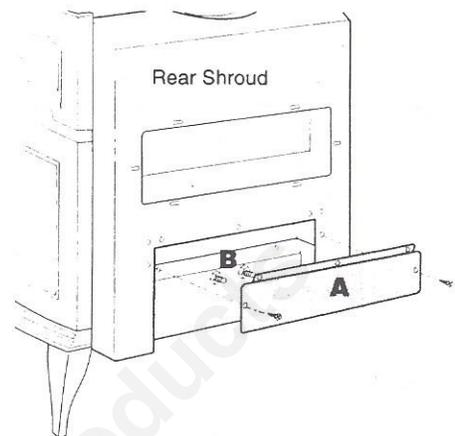
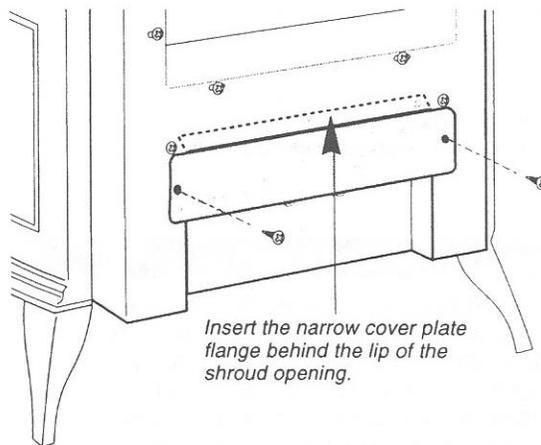

Figure 15. Remove the cover plate, and hex nuts from the rear shroud.
Figure 18b. Secure the cover plate with two #10 x 1/2" sheet metal screws.
2. Remove the cover plate (A) at the bottom of the rear shroud. Fig. 15.
- Remove the cover plate from the rear shroud as shown in Figure 15. You do not need to remove the hex nuts from the studs.
- Secure two #10 x 1" sheet metal screws (A) at the midpoint of the upper opening.
- Fasten four #10 x 1/2" sheet metal screws (B) around the upper opening, the upper two first.
- Use the remaining two #10 x 1" sheet metal screws at the lower outermost left and right holes (C). It may be necessary to push against the flange from the inside to get the screws started.
- Secure the two lower, inside screws (D).
- Use two #10 x 1/2" sheet metal screws to replace the lower cover plate as shown in Fig. 18b.